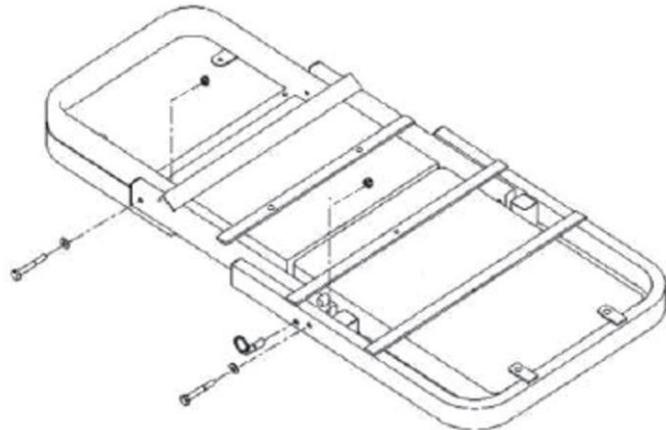

Fig.1
1. Secure the seat cushions to the framework with bolts (7).
2. Place the assembly framework flat, face down, then assemble the frames with the bolts (4), nuts (5) and washers (6), as shown in Fig.1.